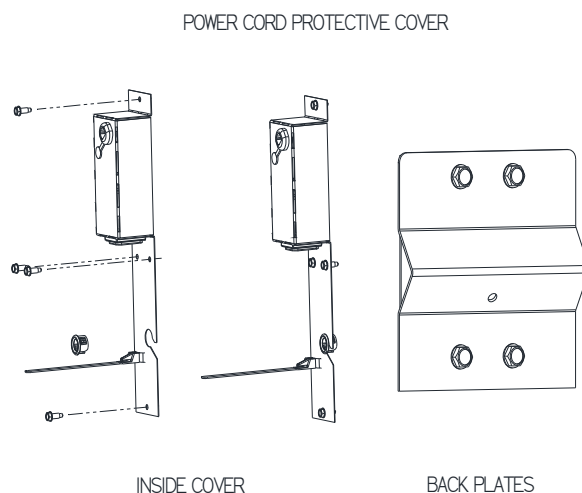

Figure 8.4 Replacing Power Cord and Protective Cover
4. The sensor is mounted to its bracket using two spring clamps (See Figure 8.4). To remove it, first unwrap the sensor wire from the two slots in the bracket, and then slide the sensor out of the two spring clamps.